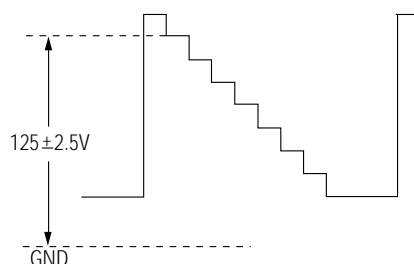

Fig. 4-1
4. Adjust the Screen VR (on the FBT) so that the voltage on the oscilloscope becomes  $125 \pm 2.5V$  (See Fig. 4-1).